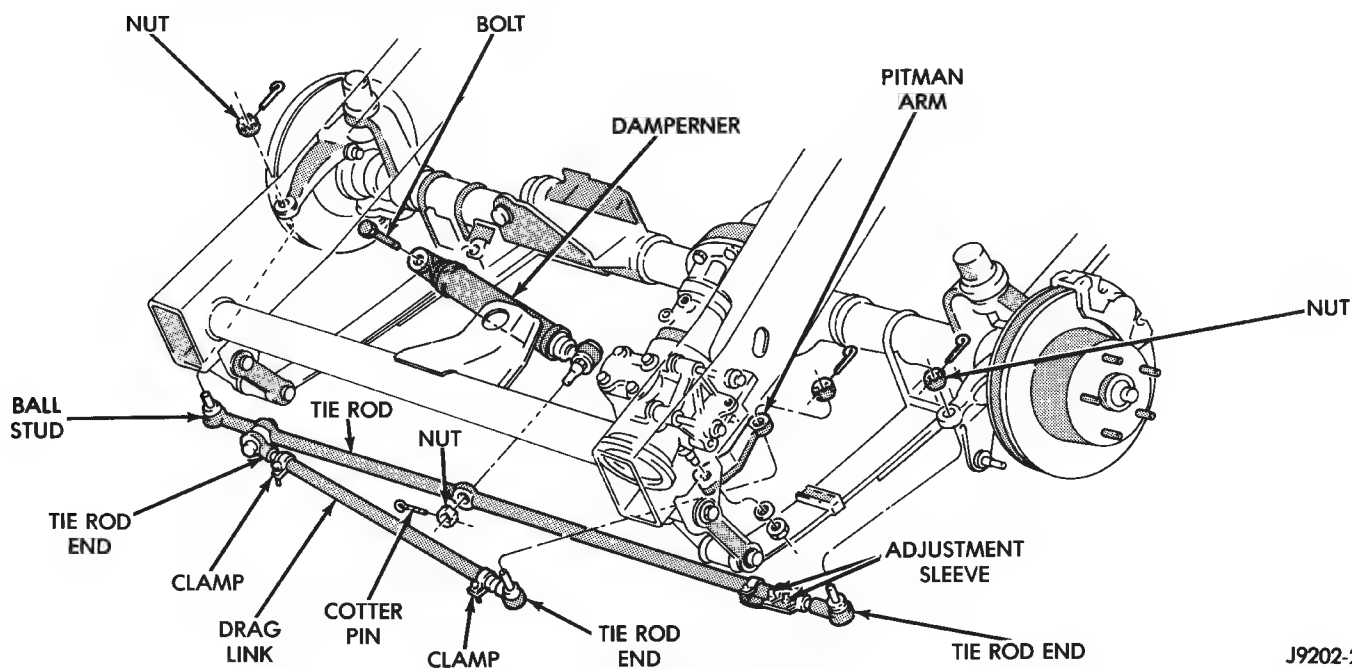
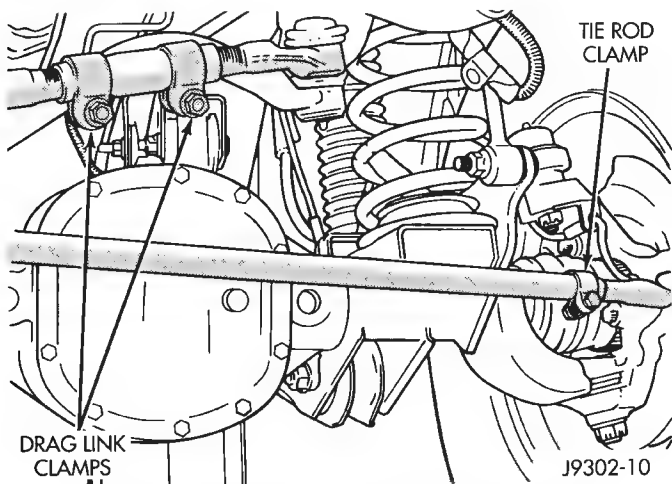

Fig. 2 Steering Linkage
Fig. 3 Tie Rod/Drag Link Clamp Bolt
(1) Remove the cotter pins and nuts at the steering knuckles and drag link (Fig. 2). Remove the steering damper from the tie rod.
(2) Loosen the ball studs with a puller tool to remove the tie rod.
(1) If necessary, install the tie rod end in the tube (Fig. 2). Position the tie rod clamp as shown (Fig. 3). Tighten the ball-stud end clamp bolts to 49 N·m (36 ft. lbs.) torque.
(1) Remove the cotter pins and nuts at the tie rod and pitman arm (Fig. 2).
(2) Remove the drag link from the tie rod and pitman arm with a puller tool.
(3) If necessary, loosen the end clamp bolts and remove the tie rod ends from the tube.
(1) Install the drag link adjustment sleeve and tie rod ends. Position clamp bolts as shown (Fig. 3).